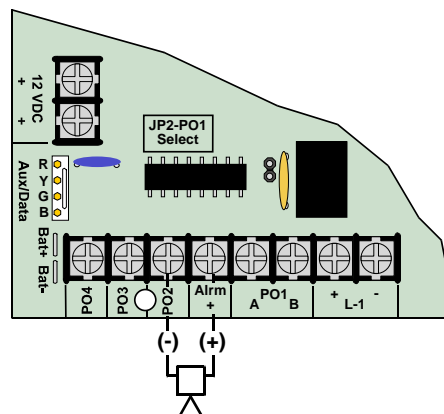

Figure 25: PO2-PO4 Wiring
- **PO3 and PO4:** Outputs PO3 and PO4 can be configured for Alarm Output. These outputs can sink up to 500 mA 12 VDC each. For larger loads, use a Bosch Security Systems D133 Relay Module or a Bosch Security Systems D134 Dual Relay Module (see Figure 25).